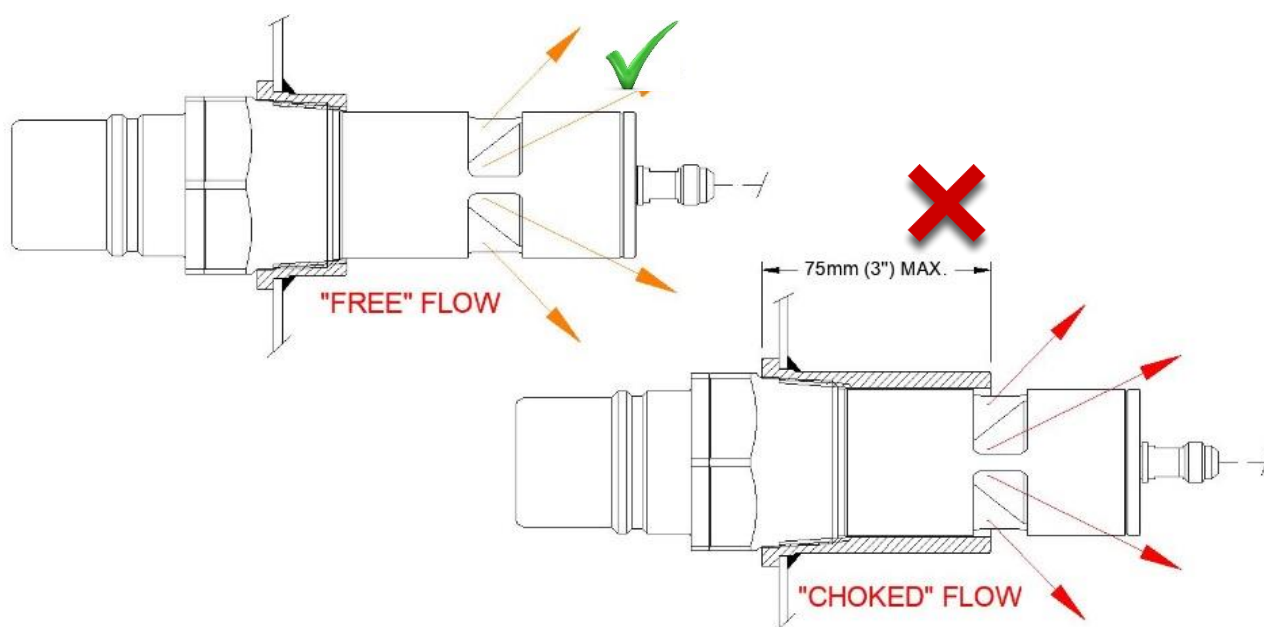

Figure 10 - Restrictions on Length of 2" NPT (F) Coupling for Valve
- The outlet (i.e. back end) portion of the Flow Control Valve cannot be installed within a Pipe or some other "extended" socket or extension (>70mm, 2.7") which may impede the flow of diesel fuel from the array of circumferential ports on the forward (upstream) side of the Piston. It is recommended the Valve be installed within a 2" NPT **half** socket (**half** coupling) – refer Figure 10.